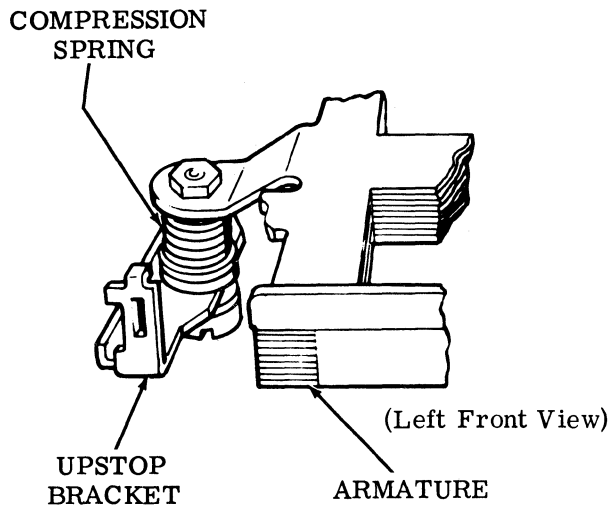

Figure 14 - Upstop Mechanism
- (b) A portion of the energy is dissipated through a resilient buffer to minimize noise and metallic clatter (Figure 14).